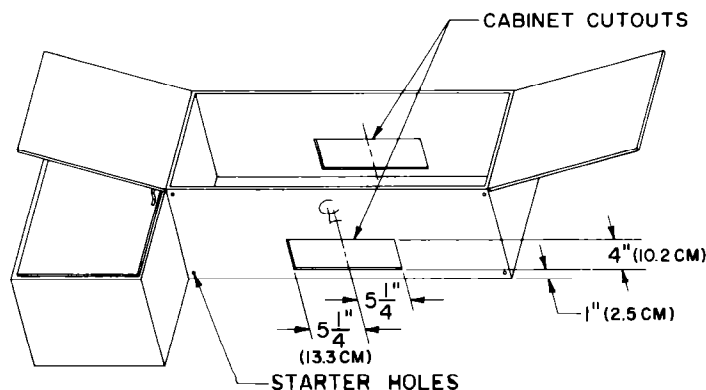

FIG. 4
2. Cut holes at marked locations to accommodate ventilating duct and electrical wiring. Allow $\frac{3}{4}$ " (1.91 cm) extra on ventilating opening toward the front of the cabinet directly above the hood (See Figure 4). Be sure to minimize openings through the outside walls or ceiling. These will have to be sealed later.